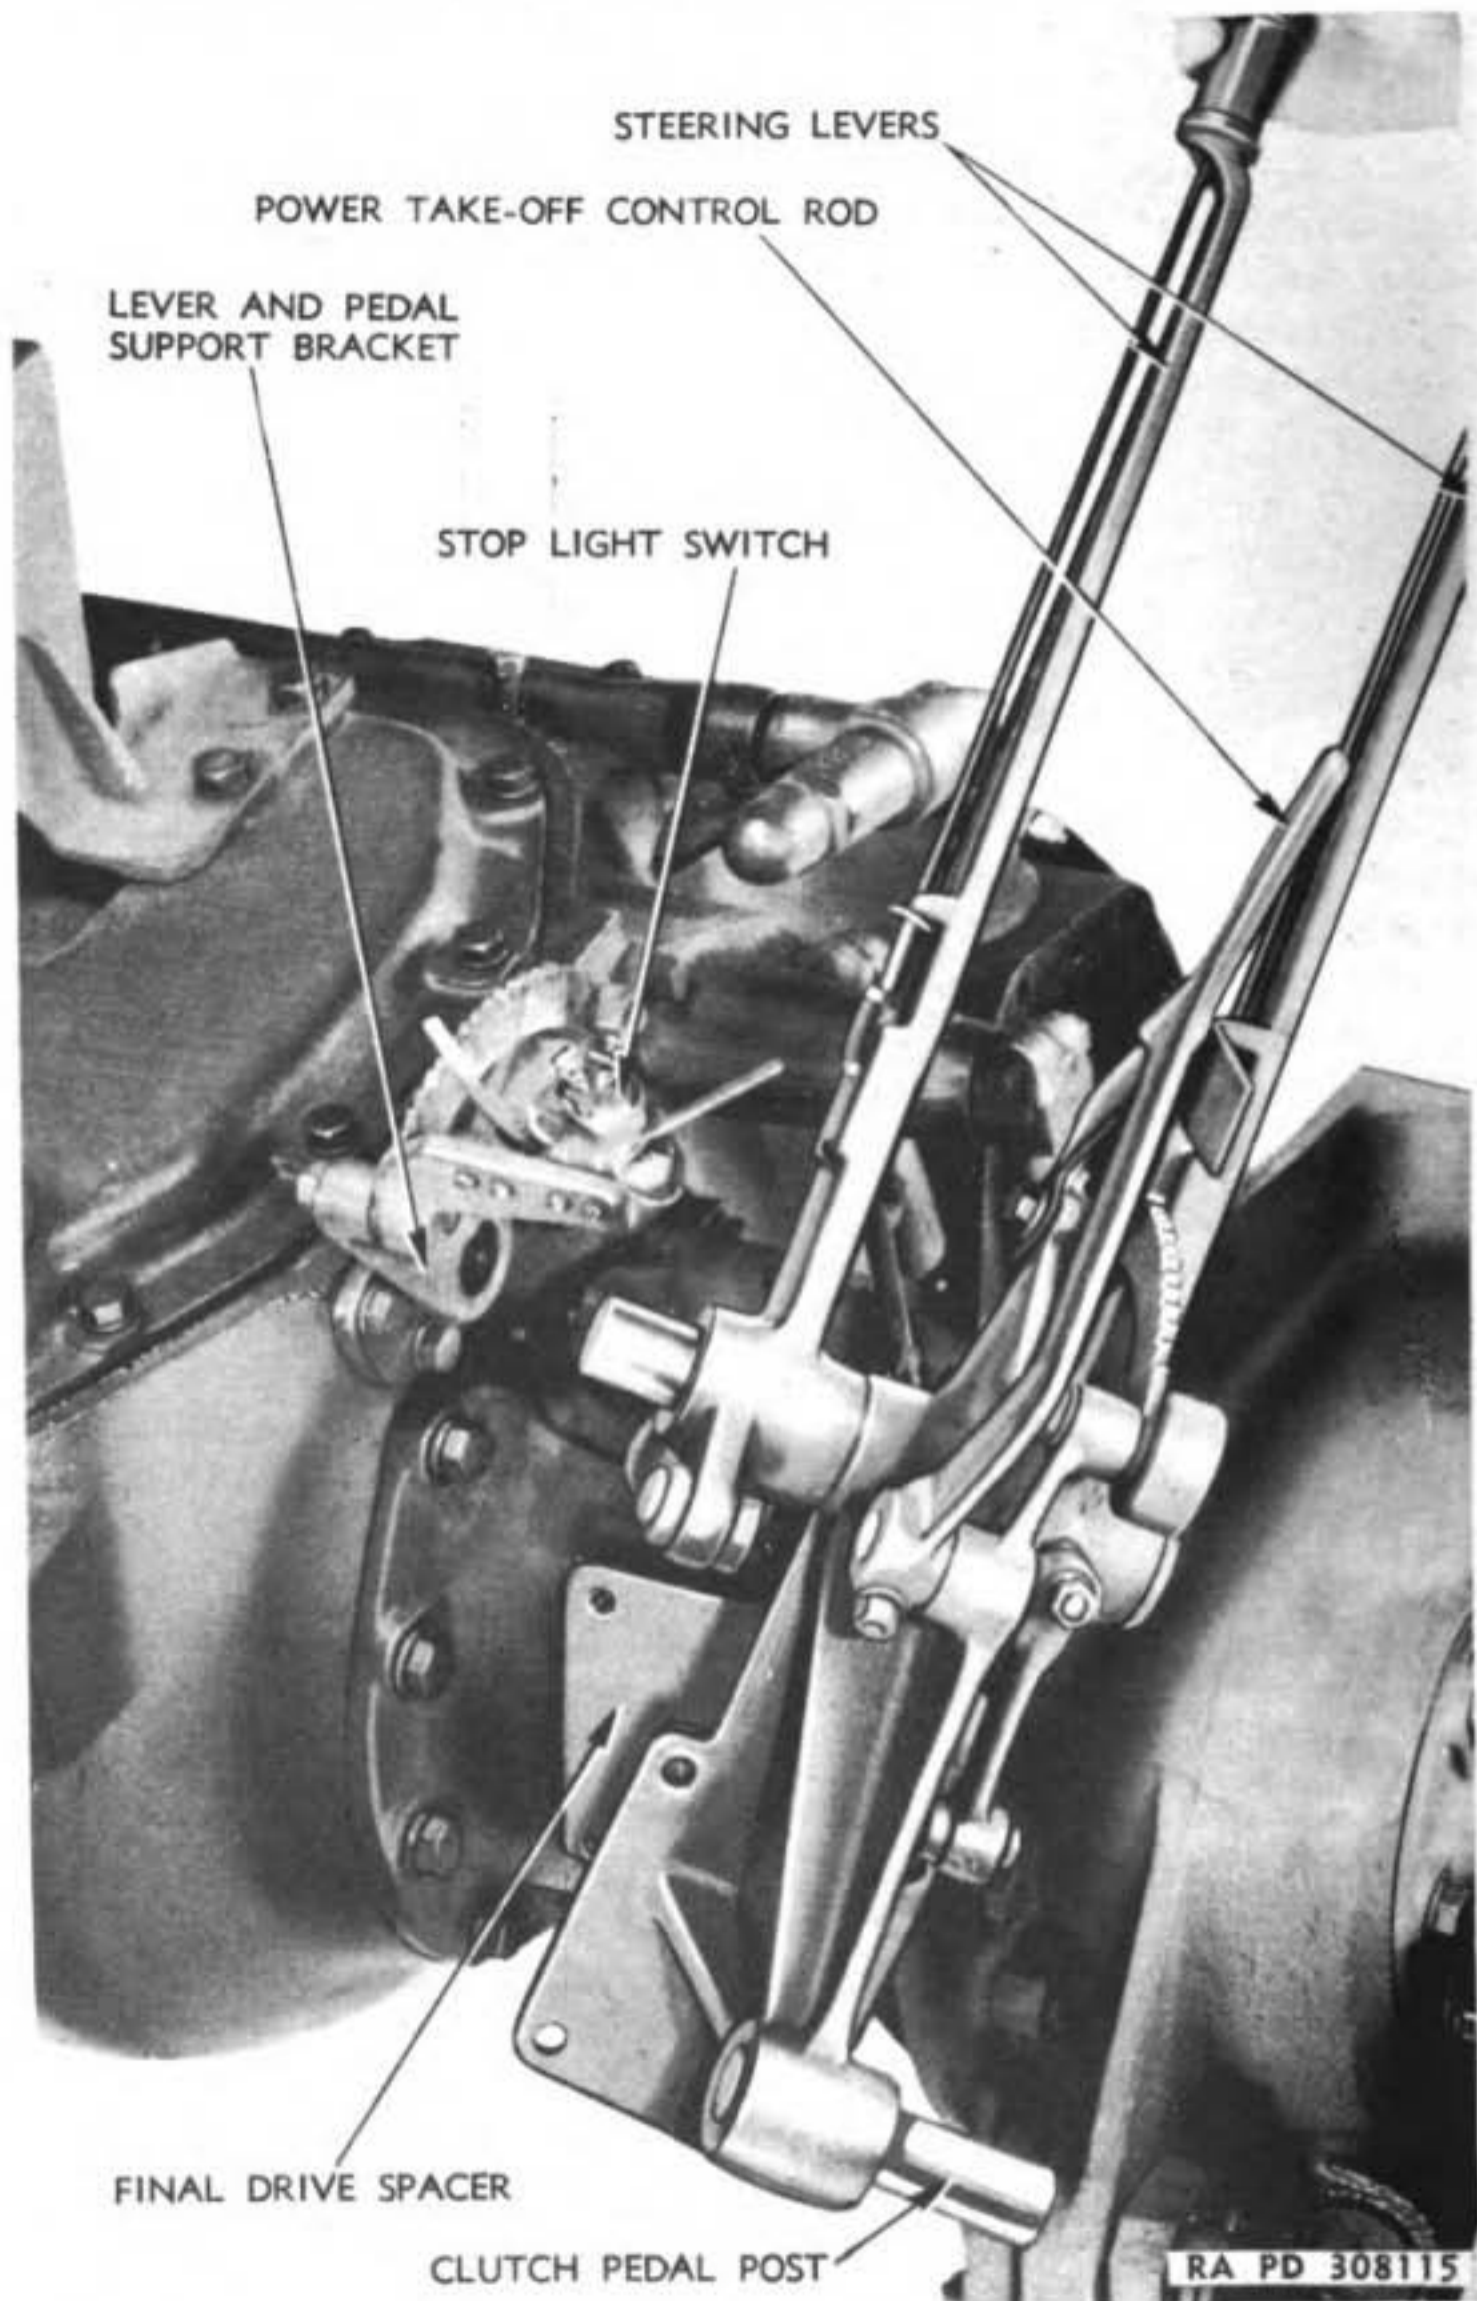
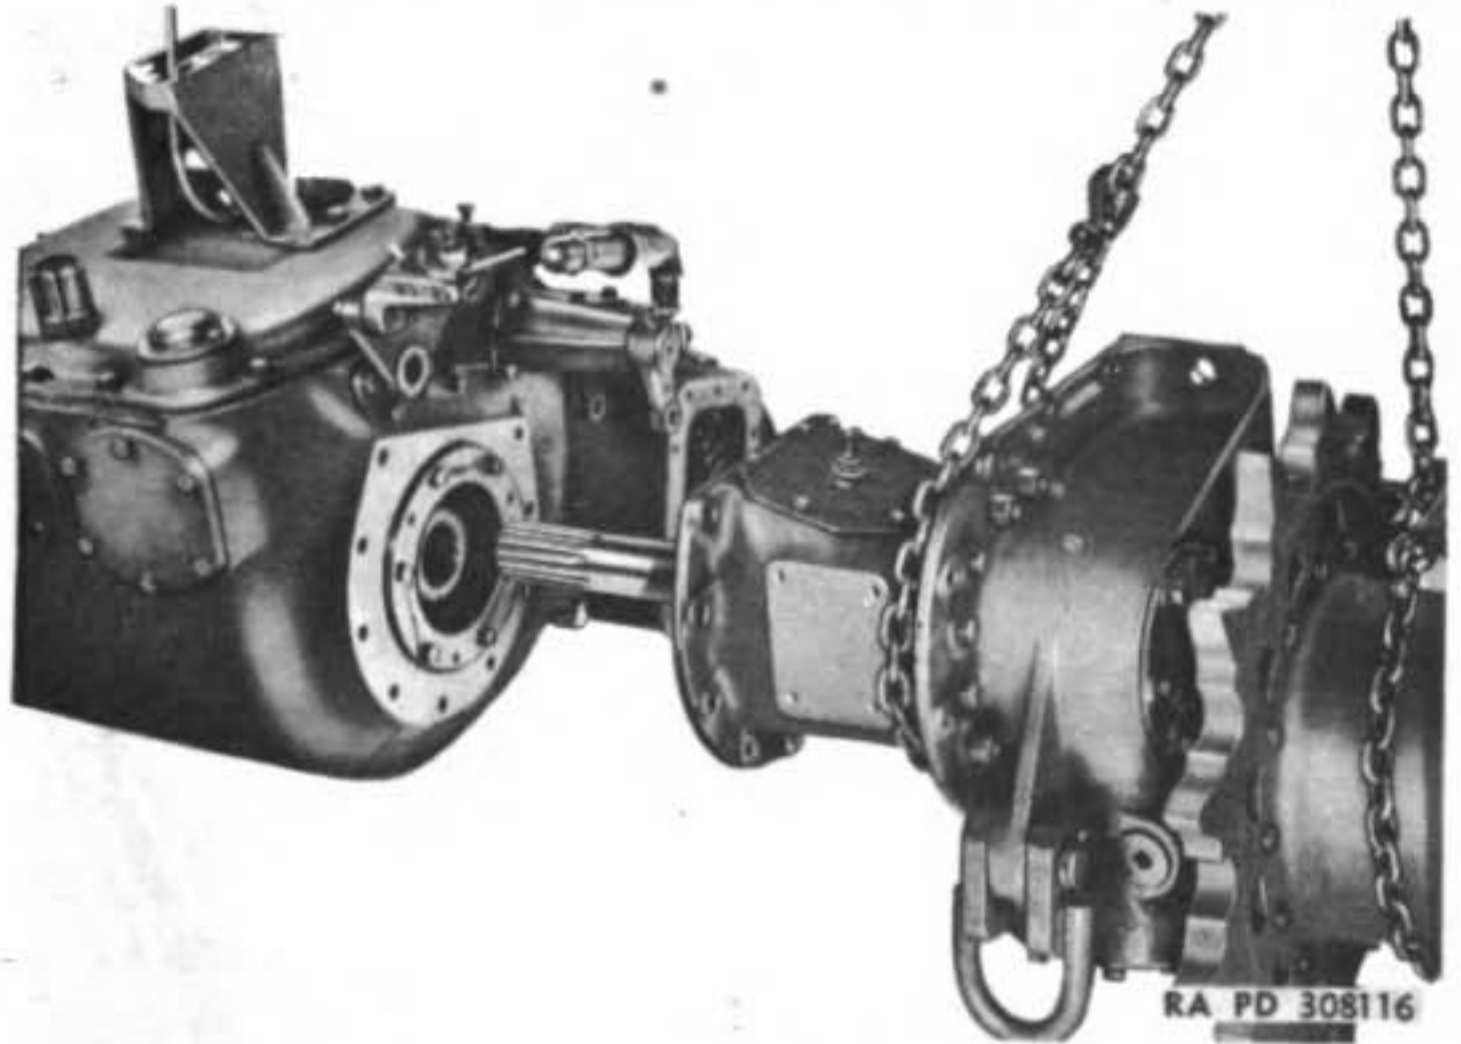

Figure 15 — Removing Steering Lever Assembly
Figure 16 – Final Drive Removal
d. Remove Final Drive Assemblies. Slide clutch pedal off post on steering lever bracket. Remove yoke pins to disconnect rear ends of steering brake control rods from levers on control shafts. Remove the four cap screws attaching steering lever bracket to front of final drive spacer. Carefully pull lever assembly sideways to slide lever shaft out of steering lever and clutch pedal support (fig. 15) so that stop light switches will not be damaged in removing lever assembly. Remove nine cap screws that attach final drive spacer to differential case, then, using chain hoist as shown in figure 16 to support the weight, pull final drive and sprocket assembly sideways away from differential. Remove second final drive assembly in same manner.